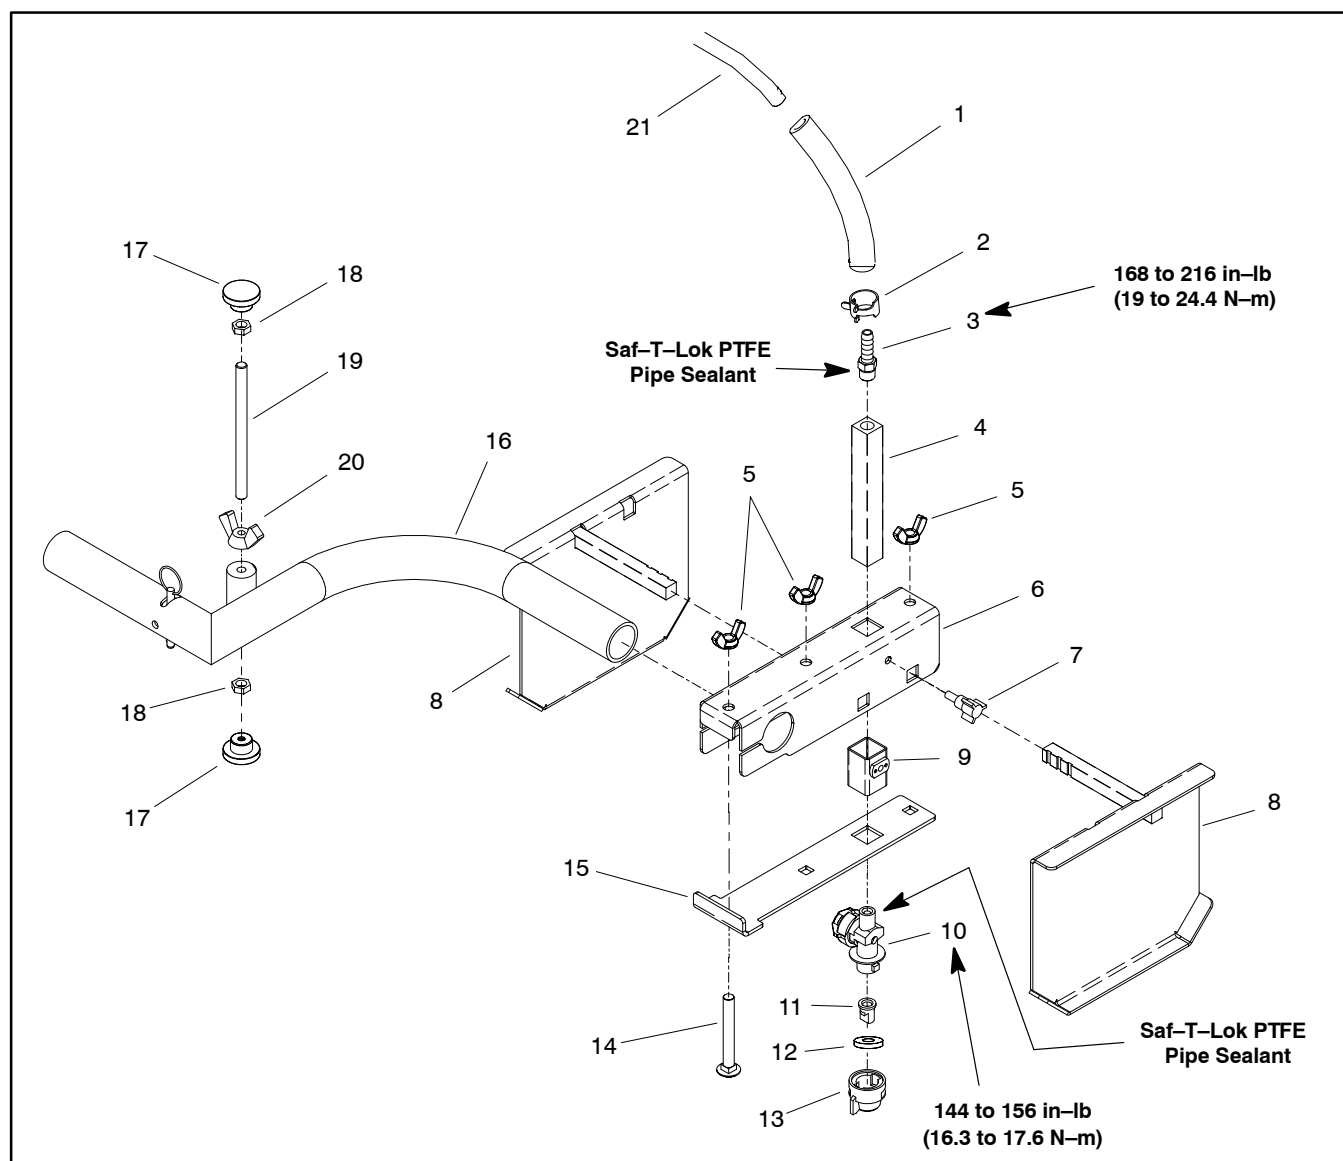

Figure 36
### Disassembly (Fig. 36)
3. Remove spray head components as needed using Figures 36 and 37 as guides.
### Assembly (Fig. 36)
1. Assemble spray head using Figures 36 and 37 as guides. If barb fitting (item 3) or diaphragm nozzle (item 10) were removed from nozzle tube, apply Saf-T-Lok PTFE Pipe Sealant (or equivalent) to threads of components before assembly (see Thread Sealant for Paint System Fittings in the General Information section).